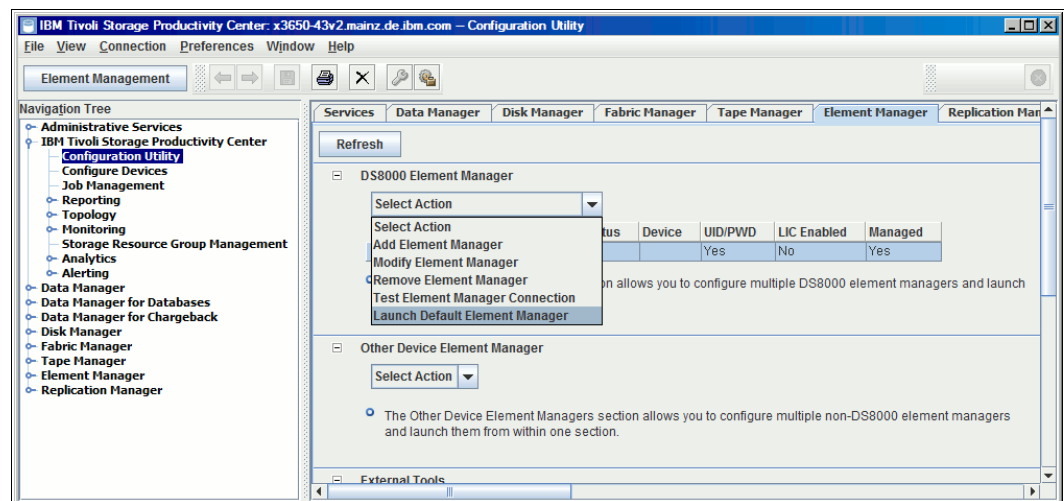

Figure 12-23 Launch the Element Manager
3. After the DS8000 GUI has been added to the Element Manager, select the Element Manager you want to work with and, from the **Select Action** drop-down menu, select **Launch Default Element Manager** as shown in Figure 12-23.